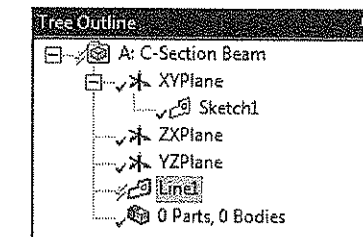

Figure 4-6 Line 1 added to the Tree Outline representing the line body feature
1. Choose the **Lines from Sketches** tool from the **Concept** menu of the Menu bar; you are prompted to select the base object to convert it into a line body feature. Also, **Line1** is added below the three default planes in the Tree Outline, as shown in Figure 4-6. A yellow thunderbolt is also displayed attached to **Line1** in the Tree Outline indicating that the feature needs to be generated.